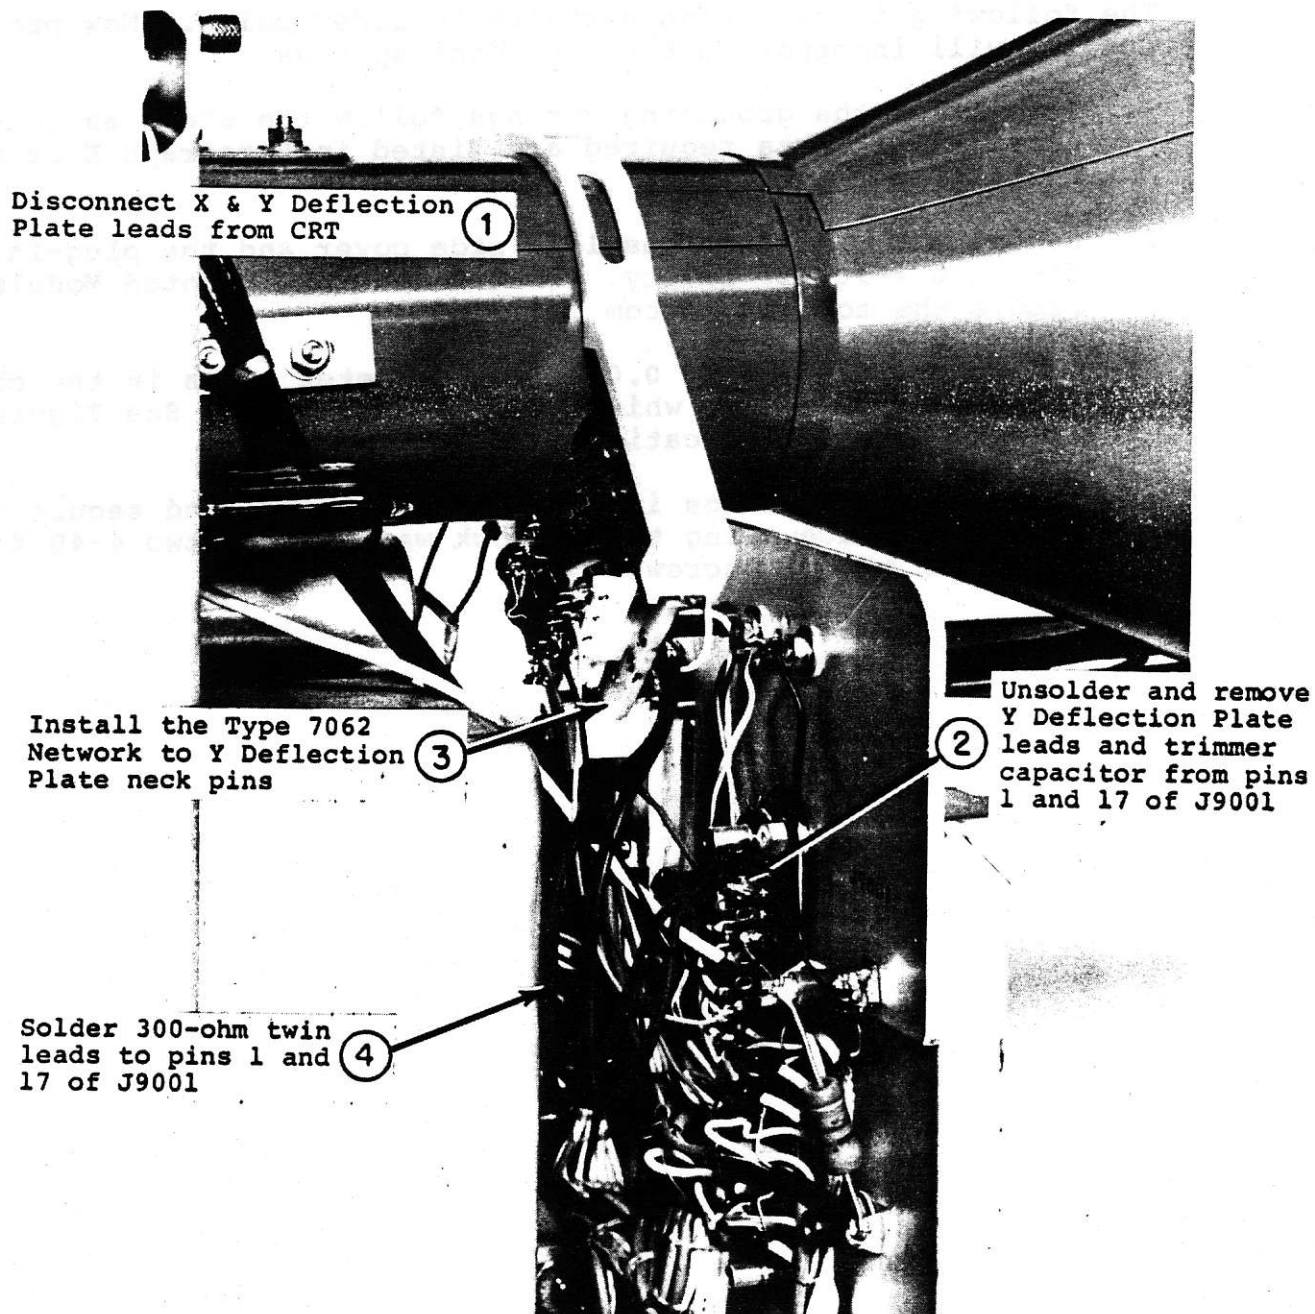
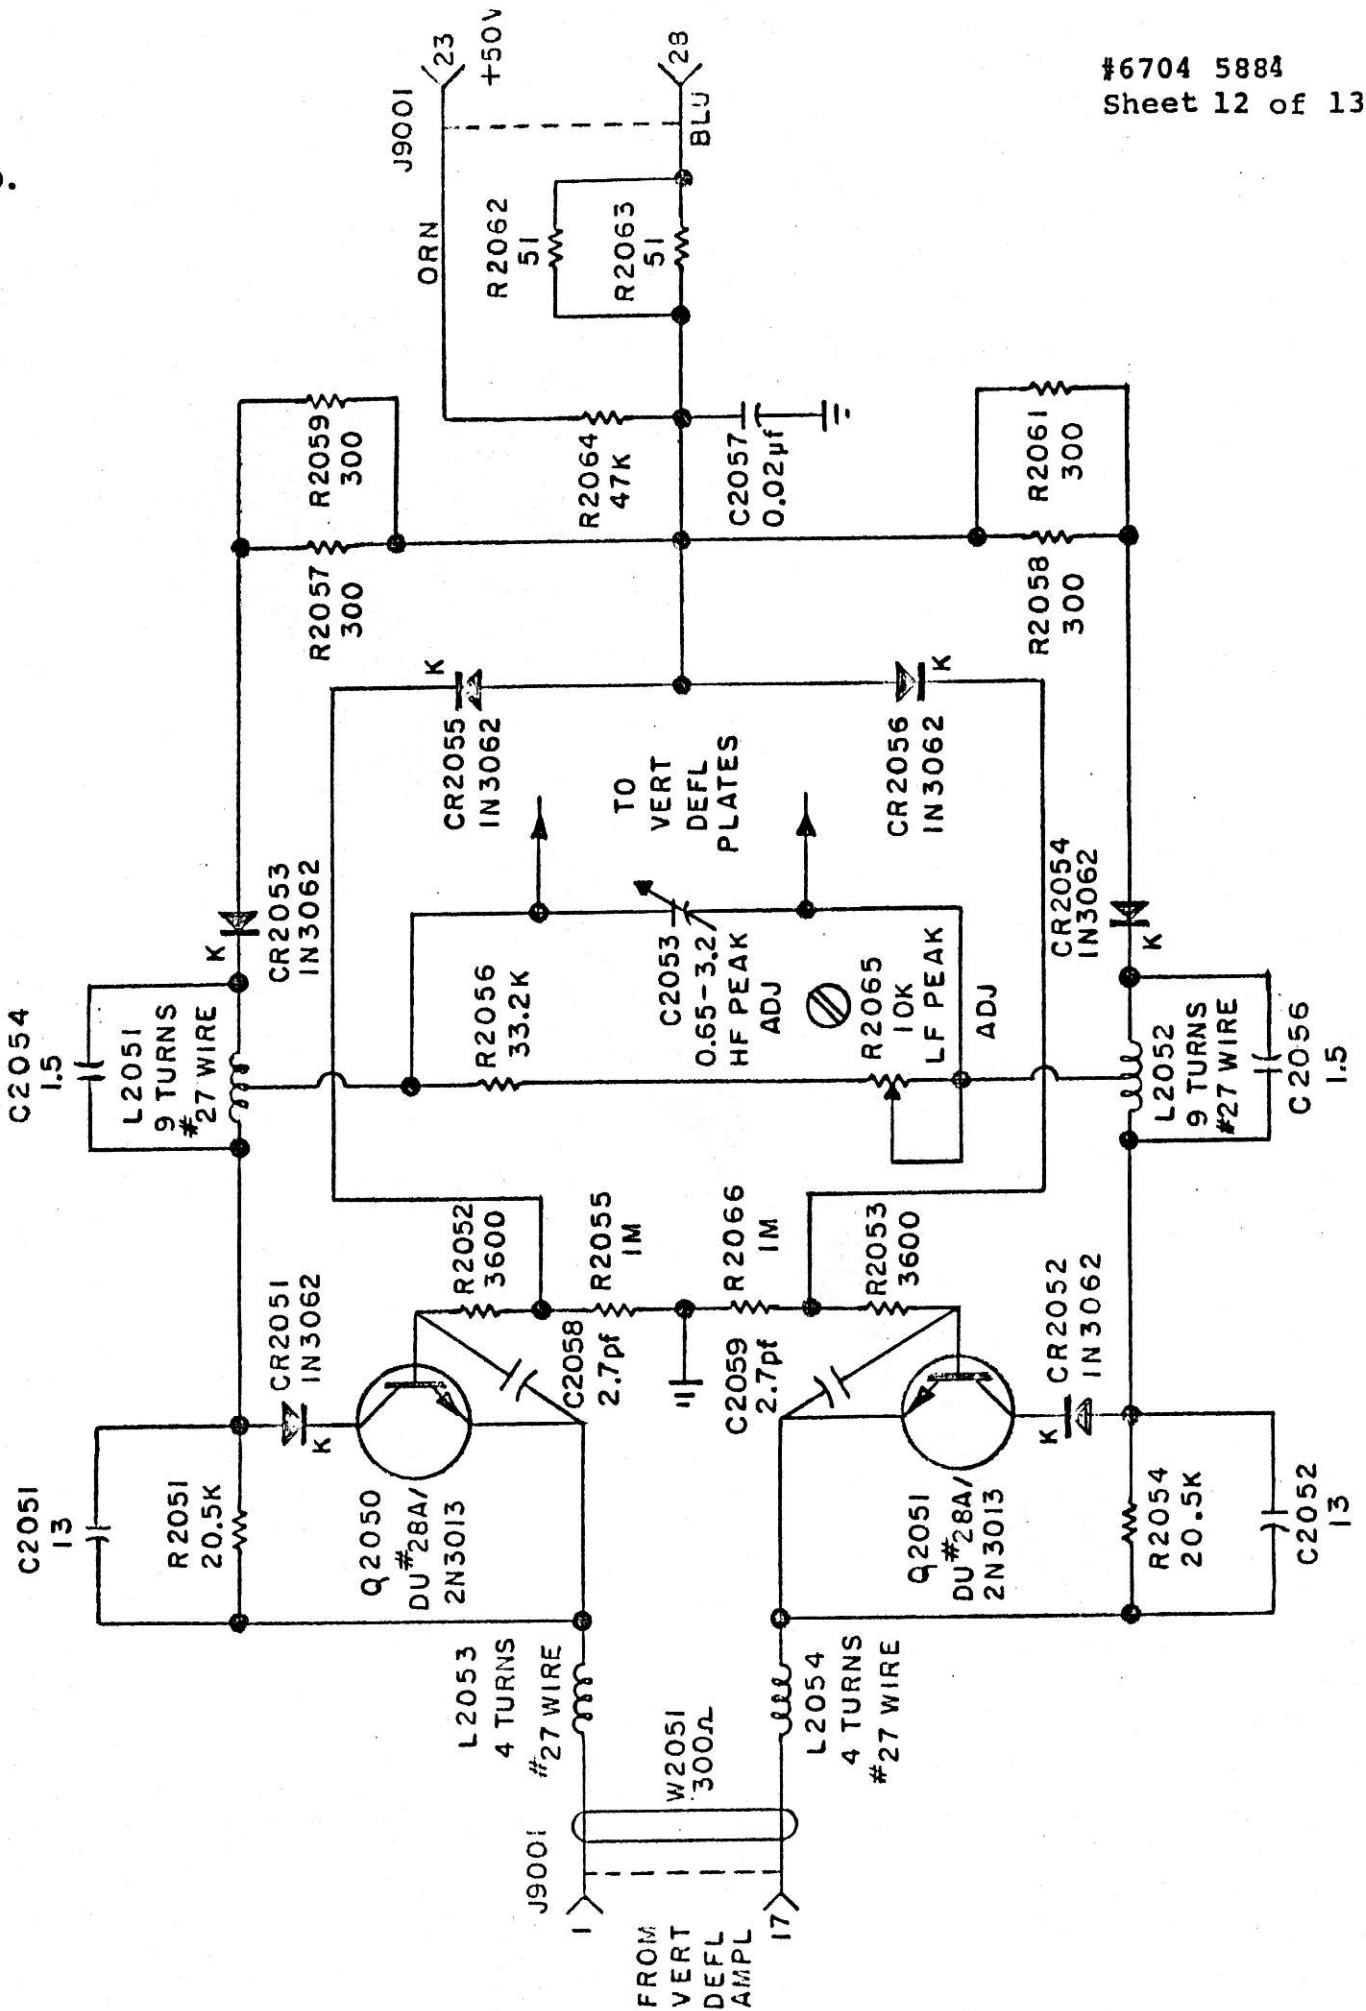

FIGURE 1. INSTALLATION INSTRUCTIONS
FIGURE 7. SCHEMATIC TYPE 7062 TERMINATION NETWORK
A. INSTALLATION INSTRUCTIONS (Figures 1, 2, and 3)
See Figures 1 and 2 for Installation Instructions and Figure 3 for the Interconnecting Diagram.
Assemble the Type 7062 Termination Network following the steps outlined in Figures 1 thru 3. The schematic for the Type 7062 is shown in Figure 7.